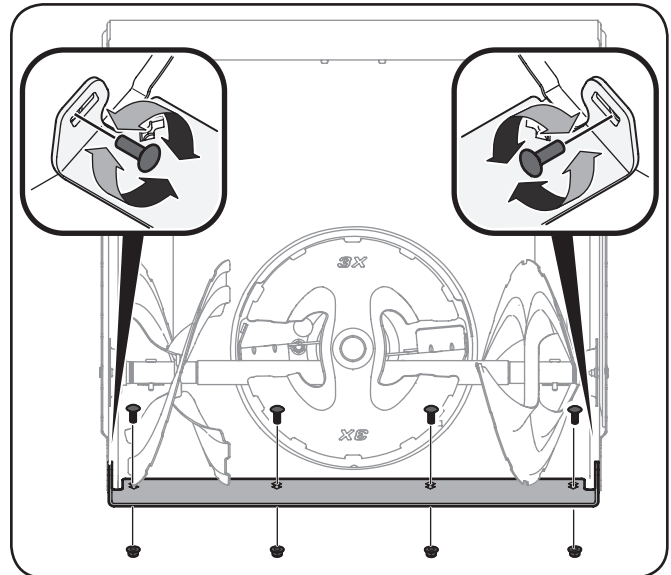

**Figure 6-3**
2. Reassemble new shave plate, making sure heads of carriage bolts are to the inside of housing. Tighten securely. See Figure 6-3.